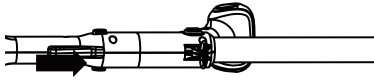

Fig. 1
- a. Align and insert the middle shaft into the upper shaft, making sure it is in the right position as shown. The bulge part and the slot needs to match, or the shafts will not fit. (Fig. 1)